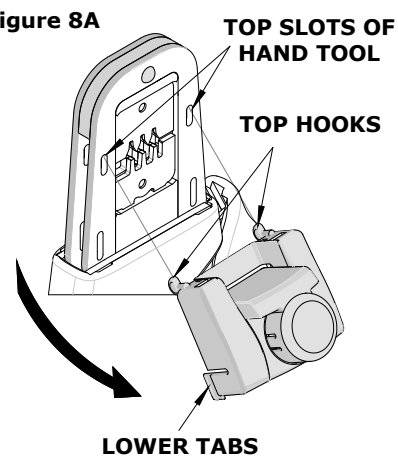

Figure 8B
5. Press the center of the locator down as far as it will go as shown in Figure 8B.